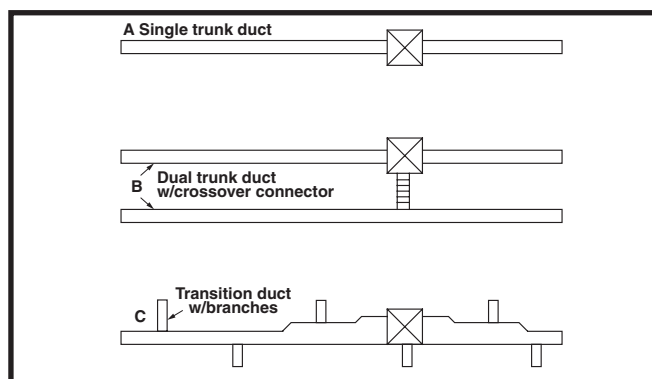

Figure 7. Typical Supply Duct Systems
- Location, size, and number of registers should be selected on the basis of best air distribution and floor plan of the home. Three typical distribution systems are shown in Figure 7.